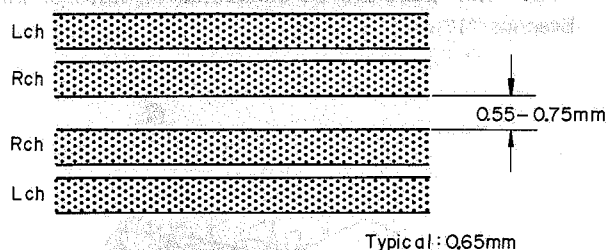

Fig. 5.13
(2) Record Head Height Adjustment and Azimuth Alignment
- (g) Immerse the recorded tape in a magnetized developing solution. In turn, check to insure that the recording head tracks across the center are separated with a distance of 0.55 to 0.75 mm (typically 0.65 mm) as illustrated in Fig. 5.13.